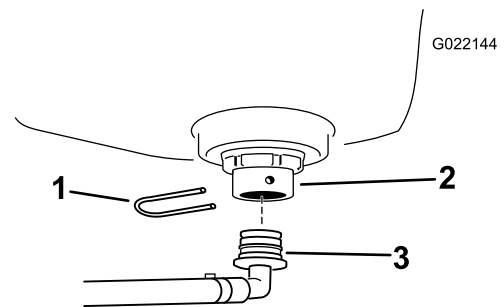

Figure 13
- Install the rinse tank hosebarb to the bulkhead fitting so that it faces the hole in the sprayer frame, and secure it with a retaining fork (Figure 13).